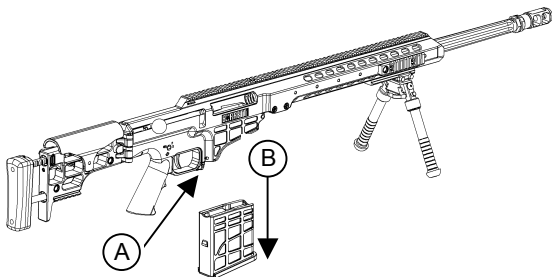

Figure 7, Step A and B.
3. Remove the magazine from the rifle by pushing the magazine catch forward and removing the magazine from the rifle. (*Figure 7, Step A and B.*)